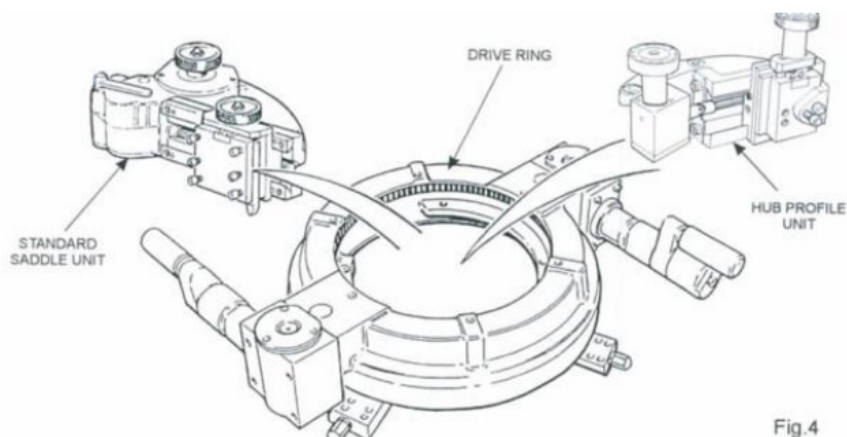

Fig.4
3. Unscrew and remove the three M10 screws securing the standard toolpost saddle unit to the drive ring. Lift out the unit and replace with the Hub Profile unit, fit the three screws and secure the unit in position. (Fig.4)